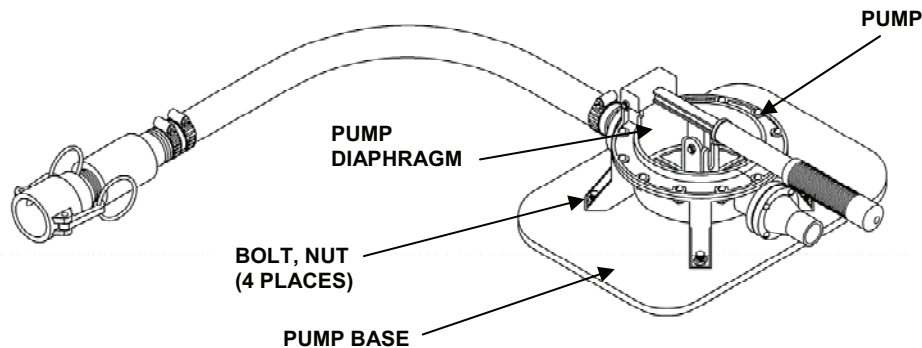

Figure 1. Priming Pump.
1. Place priming pump on 0.250-inch (0.6 cm) guzzler pump base. See Figure 1.